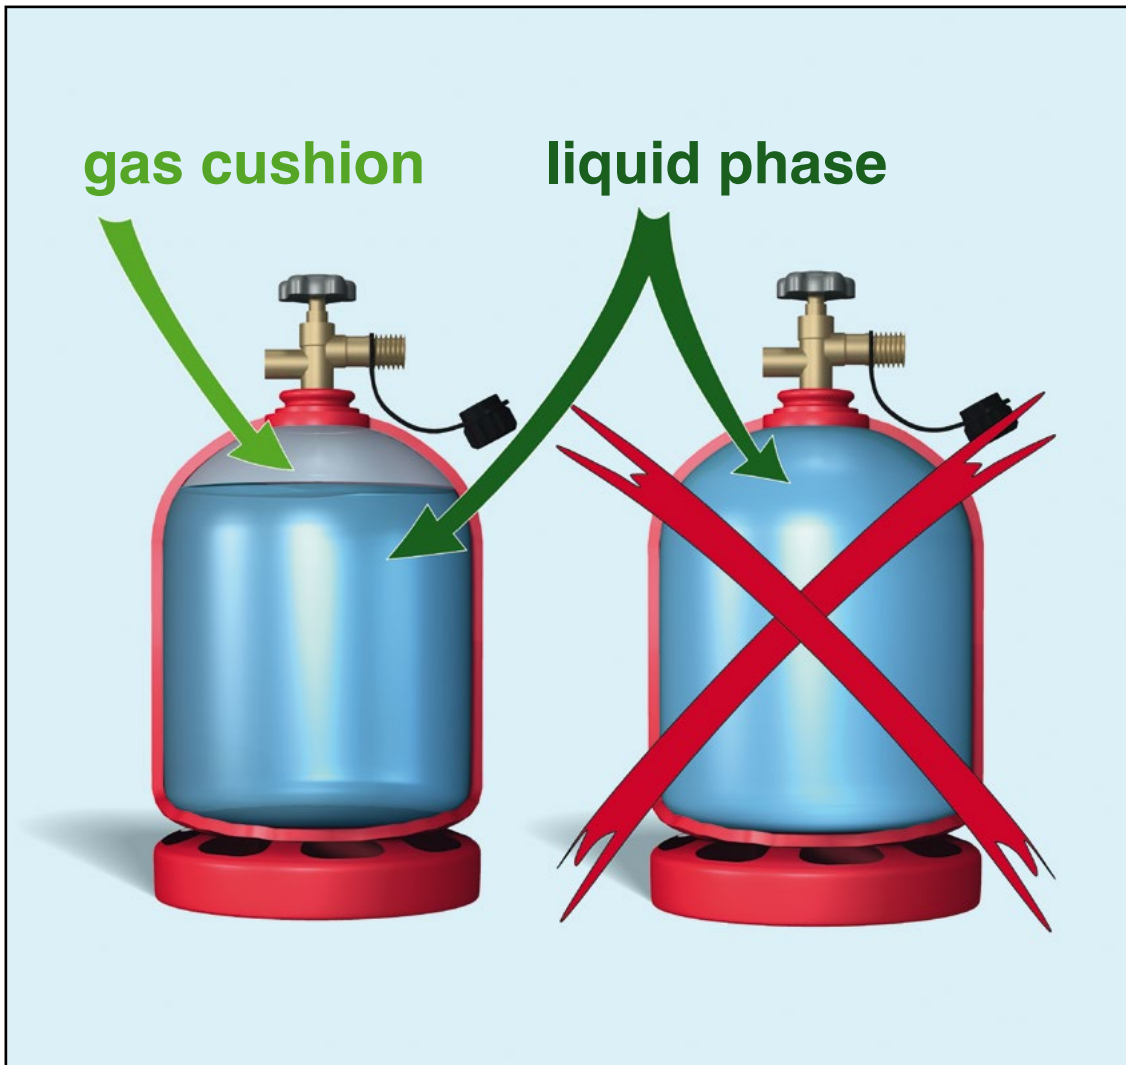

Figure 16:
- As the temperature increases, the volume of the liquid medium also increases. For safety reasons, a gas cushion is therefore always required in the LPG container (Fig. 16).